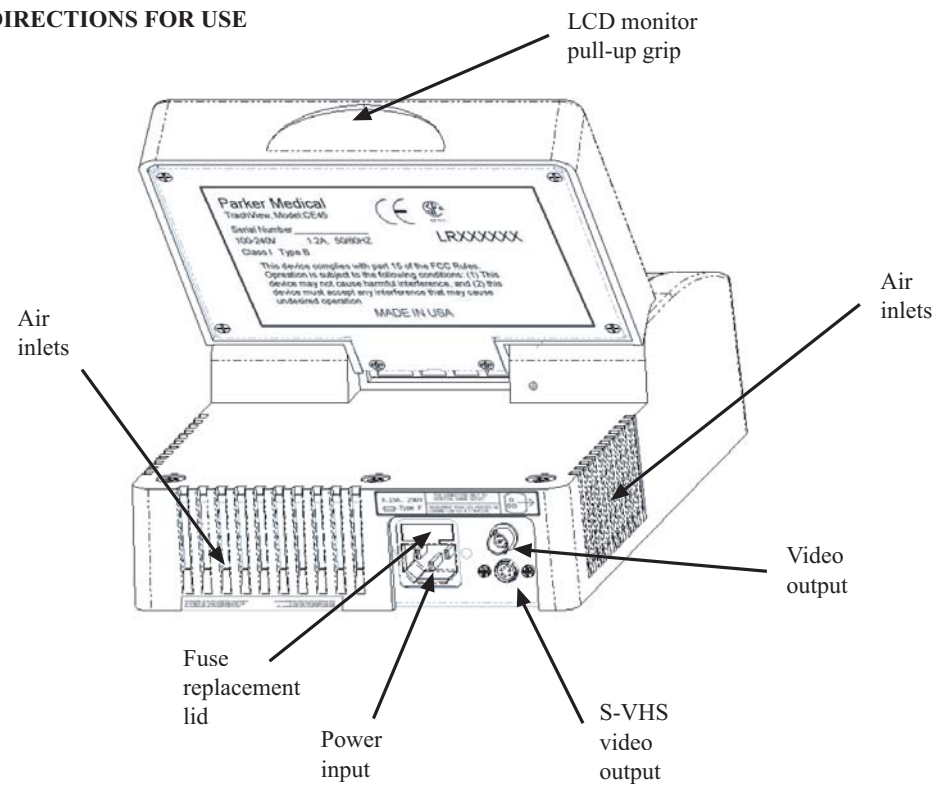

Figure 2. TrachView™ video box, rear view.
- c. Check input fuses (Fig. 2).